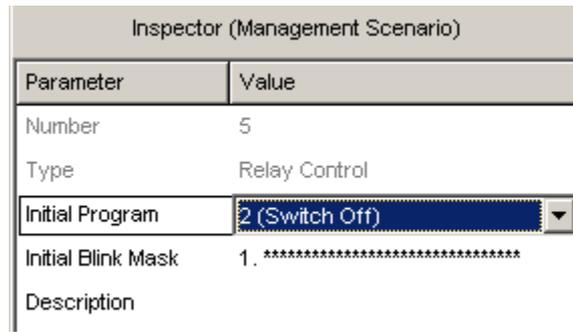

Figure 49
- ✓ *Define a relay initial condition which is common for the entire scenario and (optionally) a textual description for the scenario in the Inspector (see Figure 49). The initial condition for the relay describes the behavior of the relay output for each system conditions that are not included in scenario conditions. The initial condition features by two parameters namely an Initial Program (usually "2 (Switch Off)" but sometimes "1 (Switch On)") and Initial Blink Mask (it is worthwhile only for initial programs #5 - #8).*